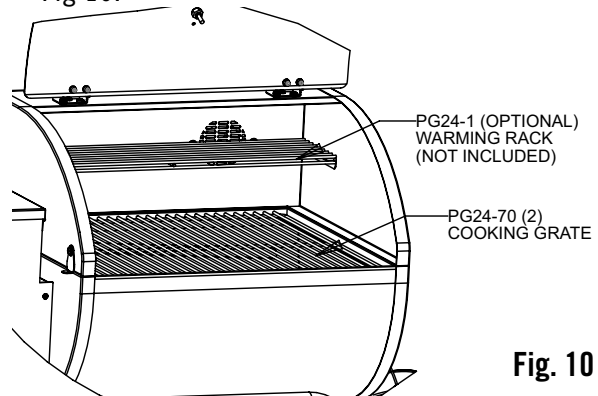

Fig. 10
1. Install the Warming Rack and Cooking Grate as shown in Fig 10.